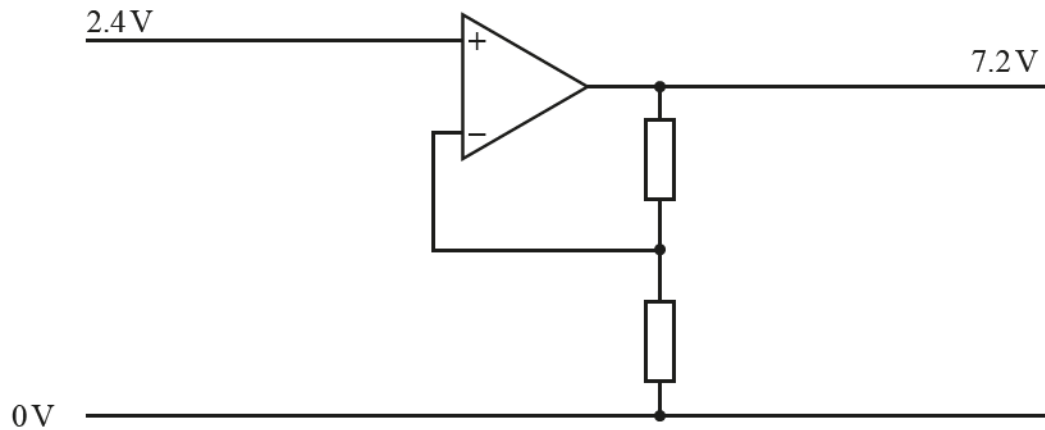

Fig. 5
(b) The circuit diagram of an op-amp amplifier is shown in Fig. 5.
(ii) Put a **ring** around the name of the amplifier circuit in Fig. 5.
(iii) Calculate the voltage gain of the circuit in Fig. 5.
- (iv) Calculate suitable values for the resistors in the amplifier and label them **on** Fig. 5 with their values **and** units.